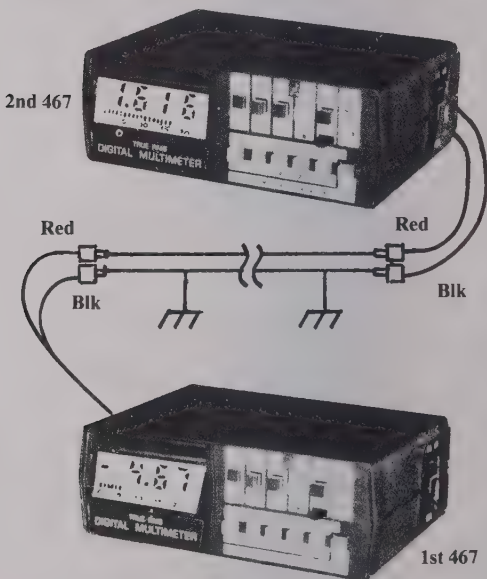

Figure 6-4. Telephone Line-Loss Measurement
6.8.1 The 1004 Hz Oscillator is useful in making telephone line-loss measurements. Refer to Figure 6-4.